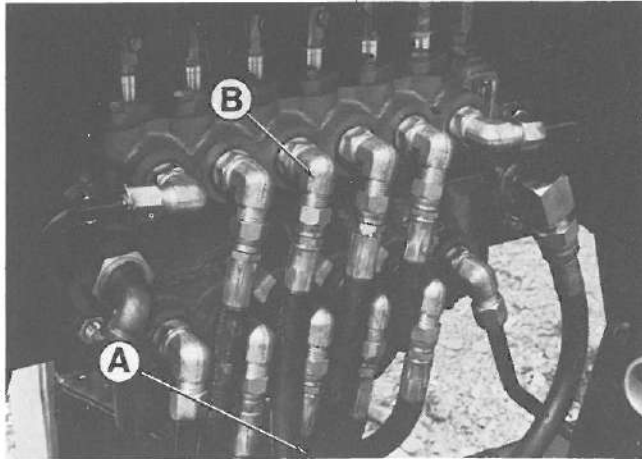

Figure 1
1. Disconnect the swing hoses (A of Figure 1) from the main backhoe valve.
2. Remove the O-ring ell (B of Figure 1) from the top swing port.
Raise both stabilizers completely. Raise the boom as high as possible. Curl the bucket completely in. Close the dipper stick in towards the boom assembly as far as possible. Your backhoe should now appear similar to Figure 1.
Locate the end of the transport chain which is not bolted to the stabilizer. Thread this end through the hole on the plate that is welded to the boom (A of Figure 1). Pull the chain taut and lock it in place by slipping it into the slot in the plate. Repeat this procedure with the transport chain on the other side of the backhoe.